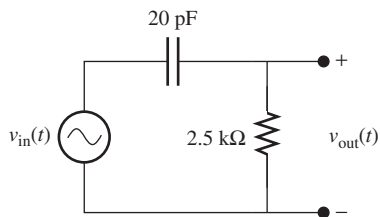

FIGURE P7.26 Filter for Problem 7.26.
7.26 (A) Find the output, $v_{out}(t)$, of the filter in Figure P7.26, given the input: